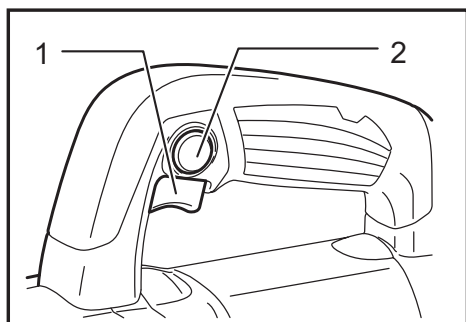

Fig.1
► **Fig.1:** 1. Switch trigger 2. Lock button